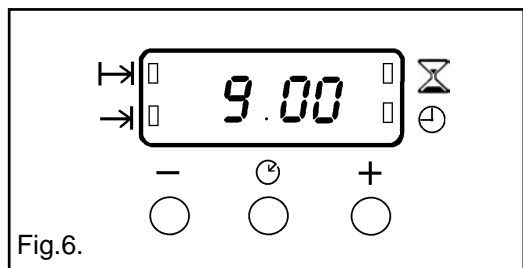

Fig.6.
- i) Ensure the electricity supply is switched ON and that the correct time of day is displayed, e.g. 9.am. as Fig. 6.